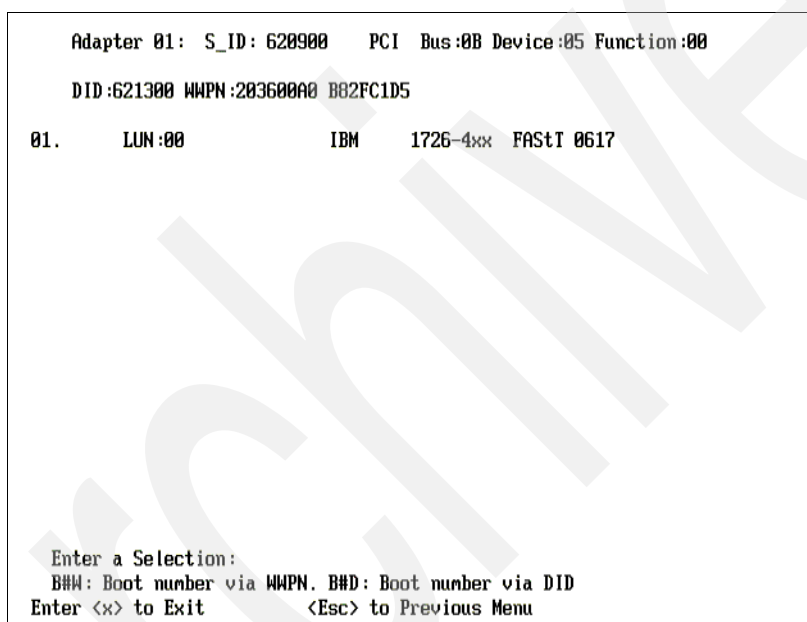

Figure 24-19 Emulex BIOS - Select identifier
4. You will see a list of LUNs that are configured in the storage device. We only configured one LUN, which is LUN 0, as shown in Figure 24-19. Enter the number corresponding to the LUN that you want to be the boot logical drive; in our case, we type 01 and press Enter.